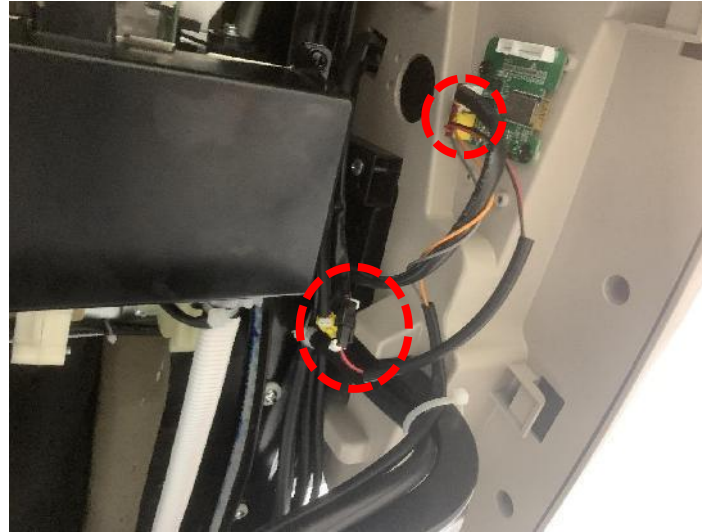

Figure 2
2. Separate the plug-in on the right side of the capsule (Figure 2)